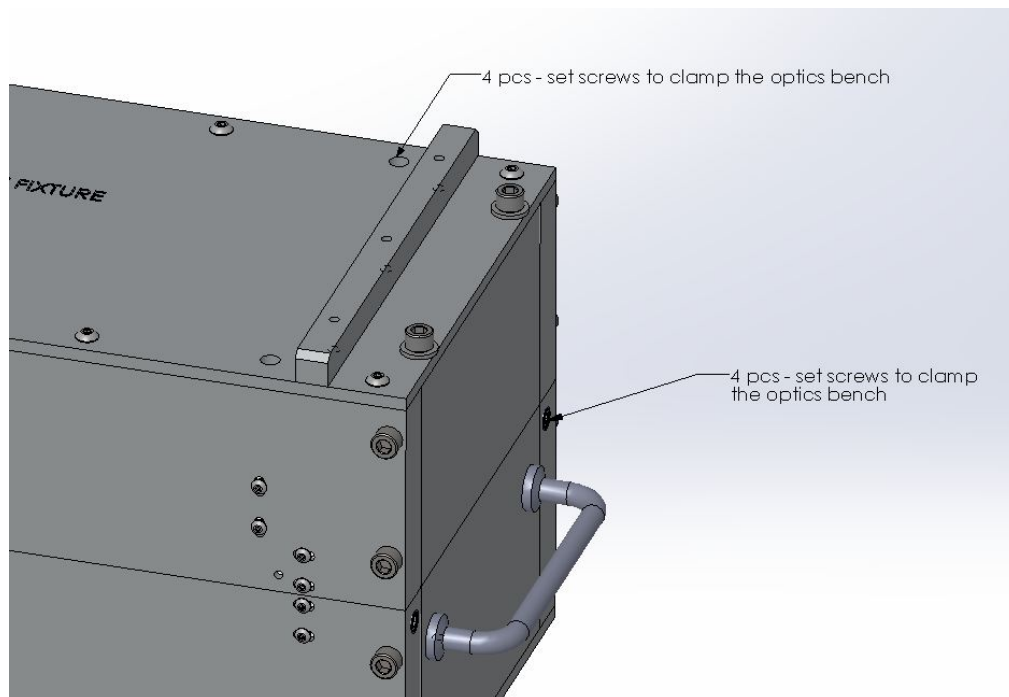

Figure 5. Set screws. These should only be hand tightened so as to not put excessive force on the fused silica bench.
6. Snug (but do not over tighten) the setscrews which clamp the optics bench within the fixture. See Figure 5 below.